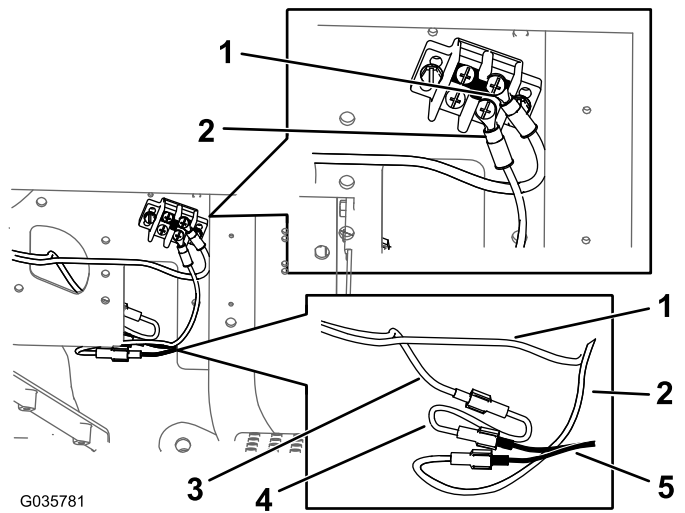

Figure 14
- C. Install the wire harness ring terminal and the ground-adaptor harness to the ground block (Figure 14).
- D. Connect the power-adaptor harness to the wire harness (Figure 14).